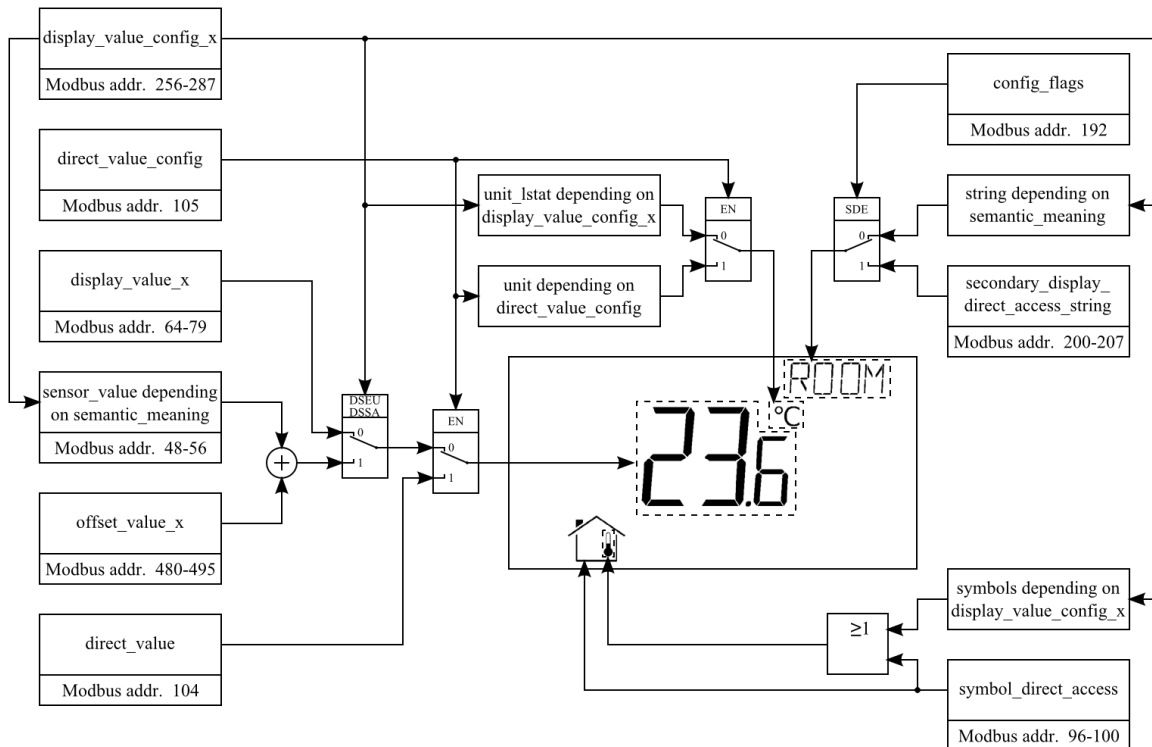

Figure 8: Modbus Register Usage for Value Display
The following Figure 8 shows, which Modbus registers have influence on a displayed value, unit, text on the secondary display or symbols. Depending on settings in configuration registers different combinations are possible to achieve the desired result.
<p>① A sensor value can be used as source for a display value. Therefore the DSSA or DSEU bit as well as the semantic meaning at the corresponding display value configuration at address 256 to 286 has to be set (see Table 28 on Page 42). If the DSSA or DSEU bit is set this specifies that a sensor value is used instead of a display value. The semantic meaning specifies which sensor value is used as source for displaying. For an overview on this topic please see Figure 8 on Page 24.</p> <p>② Sensor_value_0, sensor_value_1 and sensor_value_3 are 16 Bit signed values. All other sensor values are defined as 16 Bit unsigned since there are no negative values to expect. The values are scaled as described in Table 39 at Page 56.</p>
<p>① The DSSA or DSEU bit at the corresponding display value configuration at address 256 to 286 has to be cleared to display the content of a display value register (see Table 28 on Page 42). If the DSSA or DSEU bit is cleared this specifies that a display value is used instead of a sensor value. The semantic meaning specifies which text is displayed along with the specific display value. For an overview on this topic please see Figure 8 on Page 24.</p> <p>② All registers are 16 Bit signed values. Depending on the modbus_unit specified with the corresponding display value configuration register at address 256 to 287 (Table 28 at Page 42) the value needs to be scaled as described in Table 39 at Page 56 to achieve the desired result.</p>